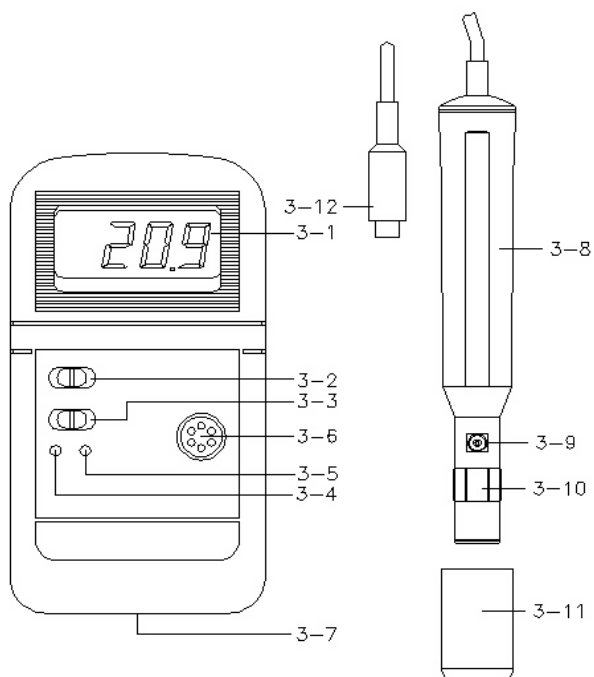

Fig. 1
- 1) Disconnect the " OXYGEN PROBE plug " (3-12, Fig. 1) from the main instrument " Input socket " (3-6, Fig. 1).
- 2) Power on the instrument by select the " On/Off Switch " (3-2, Fig. 1) to the " On " position.
Slide the " DO / CAL Switch " (3-3, Fig. 1) to the " CAL " position. Adjust the " ZERO Adj. VR " (3-4, Fig. 1) until the display show zero value.
- 3) Power off, connect the " OXYGEN PROBE plug " (3-12, Fig. 1) to the main instrument " Input Socket " (3-6, Fig. 1), then power on. Wait 5 minutes at least until the display reading values become stable & no fluctuation. Adjust the " CAL Adj. VR " (3-5, Fig. 1) until the display reading show the values exact same as 20.9
- 2) Slide the " DO / CAL Switch " (3-3, Fig. 1) to the " DO " position.
- 2) Slide the " Battery Cover " (3-7, Fig. 1) away from the instrument and remove the battery.